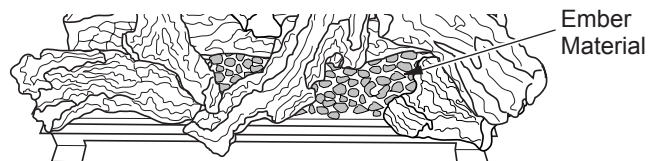

Figure 44 - Placing Ember Material on Burner
7. Pull ember material apart into pieces no larger than a dime. Place these pieces loosely and sparingly directly onto the exposed front section of the burner (see Figure 44). This will create the glowing ember appearance as the flame touches the ember material. Do not block air slots by using too much ember material in one area. It is not necessary to use all of the ember material provided.